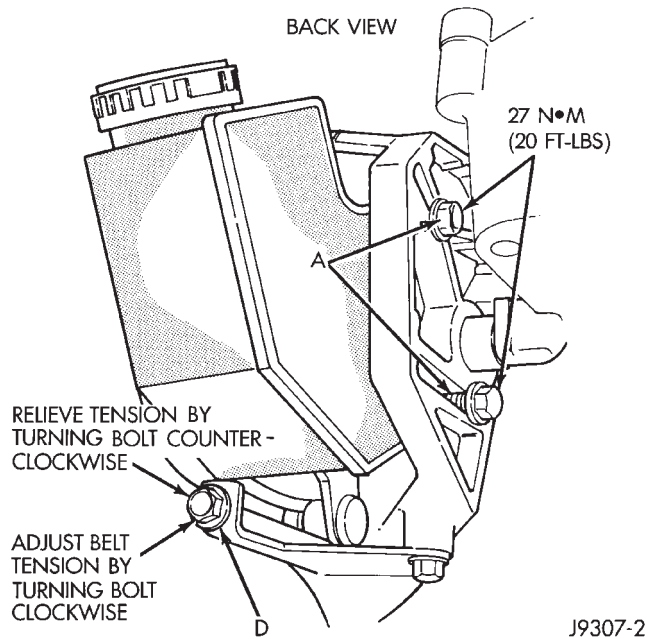

Fig. 5 P.S. Pump Rear Mounting Bolts—Typical
- (4) Remove engine drive belt as follows:
- (a) Loosen two rear power steering pump mounting bolts A (Fig. 5).
- (c) Loosen pump adjusting bolt D (Fig. 5) until belt can be removed.
- (7) Remove two bolts A (Fig. 5).
(11) Position drive belt to pulleys.
(12) Tighten belt adjustment bolt D (Fig. 5) to the proper tension. Refer to the Specifications section at the end of this group for belt tension.
(13) Tighten bolts A (Fig. 5) to 27 N·m (20 ft. lbs.) torque.